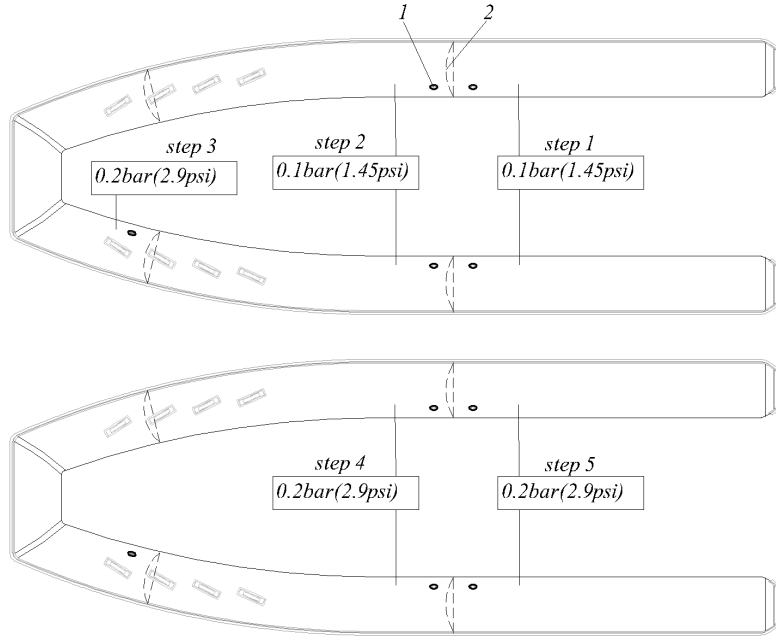

Fig.4a
Use the supplied pump to inflate the tube. Inflate the tube step by step as shown in Fig. 4a.
Step 1. First fill the two rear compartments to a pressure of 0.1bar (1.45 psi). This is necessary for the partitions (2) (Fig.4a) to take the correct position inside the tube.